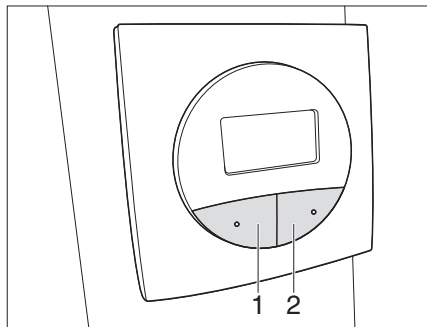

Fig. 41 Teleco satellite unit panel
- Press the SAT button (Fig. 41,2) **twice**. The satellite unit extends and searches for the set satellites automatically.
- Press the PARK button (Fig. 41,1). The satellite unit is retracted.